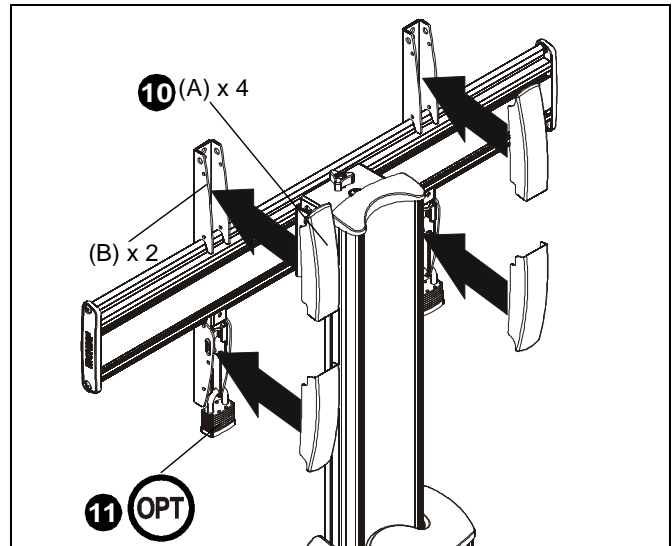

Figure 9
10. Snap four upright covers (A) onto uprights. (See Figure 9)
**NOTE:** Tabs on inside of covers (A) will snap directly into holes on uprights to ensure a secure connection.
11. (Optional) Use padlocks (not provided) to secure uprights to head assembly. (See Figure 9)